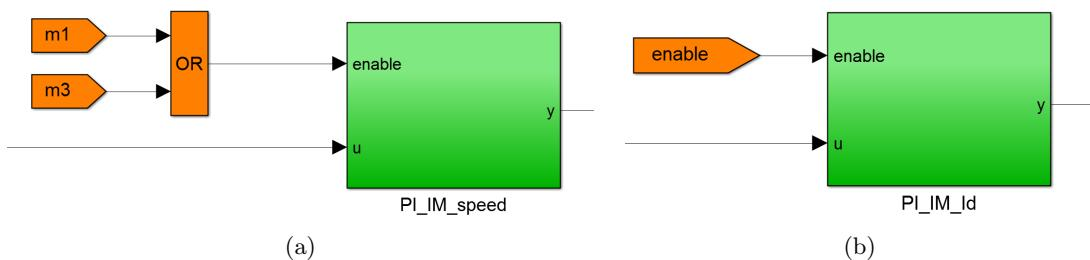

Figure 5.1: Mode enabled system (a); System enabled by the global **Enable** signal (b).
- Speed controller should have an enable signal based on the mode of operation (see Figure 5.1 (a)), and the current controllers must be enabled by the global **Enable** signal (see Figure 5.1 (b))